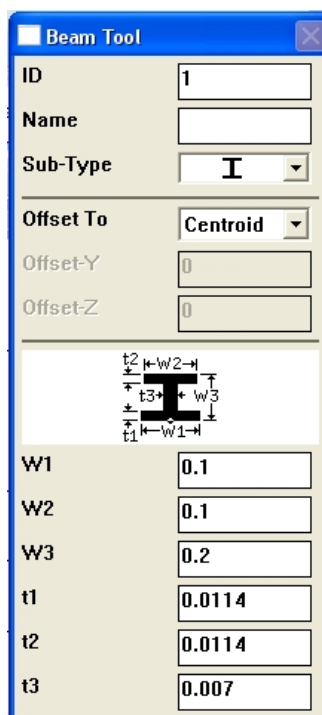

Fig. 2.3. Beam Tool
1) Element type: **PrPr** → **Element Type** → **Add/Edit/Delete**. Select the element type **Beam 188** → **OK**. You must specify the cross-section type: **PrPr** → **Sections** → **Beam** → **Common Sections**, select the I-section on the **Sub-Type** (Fig. 2.3)